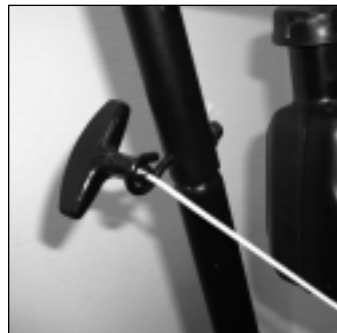

Figure 2 – Secure engine pull cord
2. An eyelet bolt is included **with some models** to secure the engine pull cord. Use this bolt and nut to secure the left rear leg. Be sure to pull the starter cord through before tightening the bolt. See Figure 2.